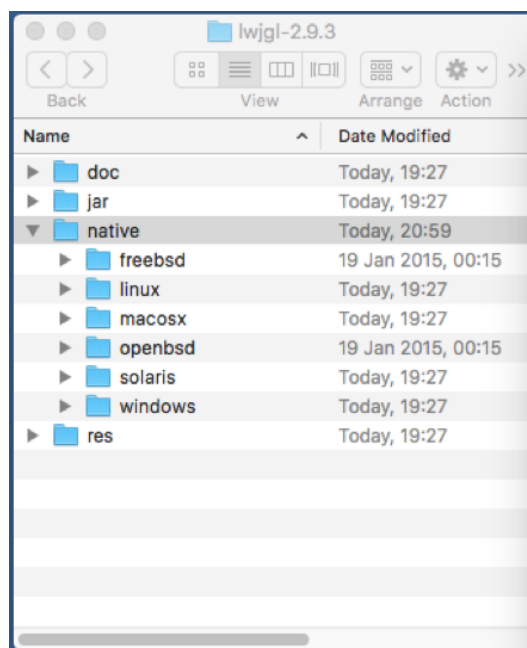

Figure 2: The native files required to enable GPU/CPU acceleration in the 2D Reconstruction plugin.
5. The GPU acceleration feature requires a number of native libraries to be utilised. These can be installed from: [https://sourceforge.net/projects/java-game-lib/files/Official Releases/LWJGL 2.9.3/](https://sourceforge.net/projects/java-game-lib/files/Official%20Releases/LWJGL%202.9.3/) (the folder downloaded should read: lwjgl-2.9.3.zip). The required native files are as shown in figure 2.